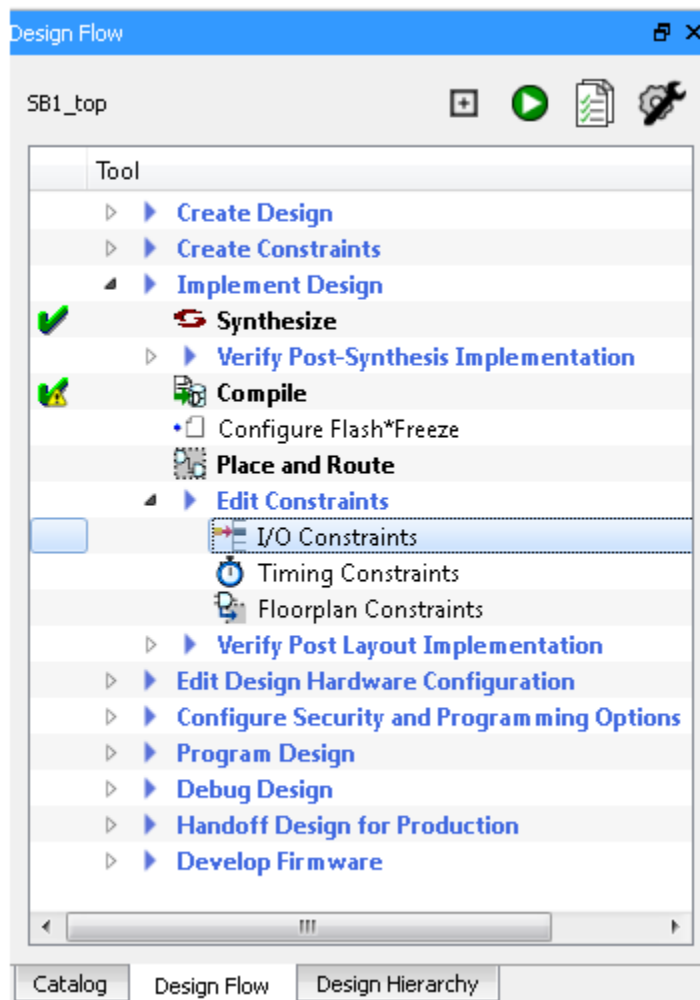

Figure 3 • I/O Constraint Editor Option Part of the Design Flow
This option is available in the I/O Constraints Editor, which can be accessed from the Design Flow window, as shown in Figure 3. This is done in the very early stages of the design cycle.
1. After finishing the Compile process, select the **I/O Constraints** option from the Design Flow window, as shown in Figure 3.